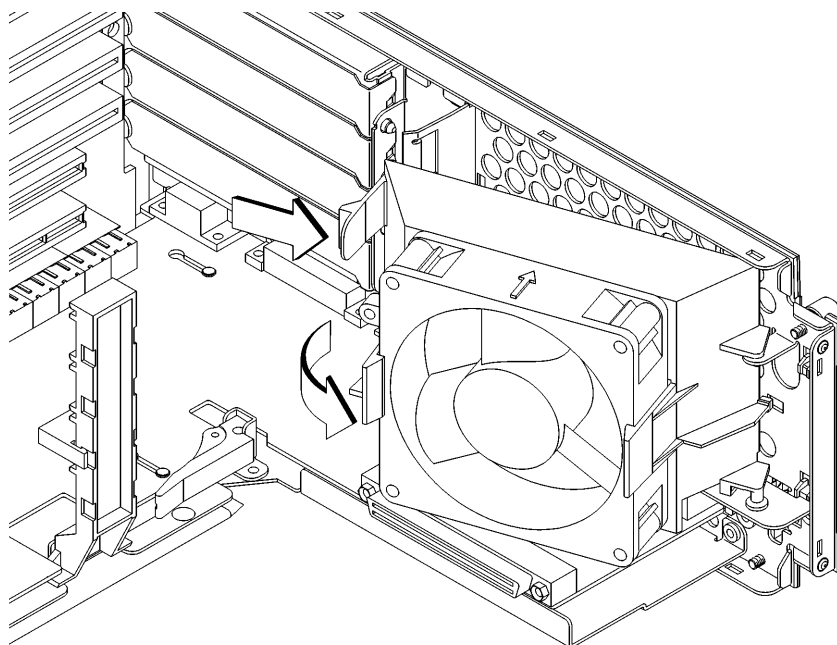

Figure 9
- 1 Press the fan release clip and rotate the fan, as shown in Figure 9.